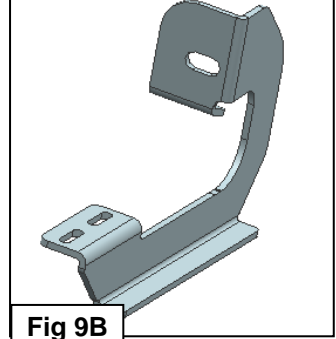

Fig 9B
9. Next, move to the very end of the cab and locate the round hole in the bottom corner of the body panel, **(Figure 8)**. Select the driver side Rear Bracket, **(Figure 9B)**. Bolt the Rear Bracket to the mounting hole with (1) 10mm x 30mm Hex Bolt, (2) 10mm Flat Washers and (1) 10mm Nylon Lock Nut, **(Figures 9A)**. Do not tighten hardware at this time.